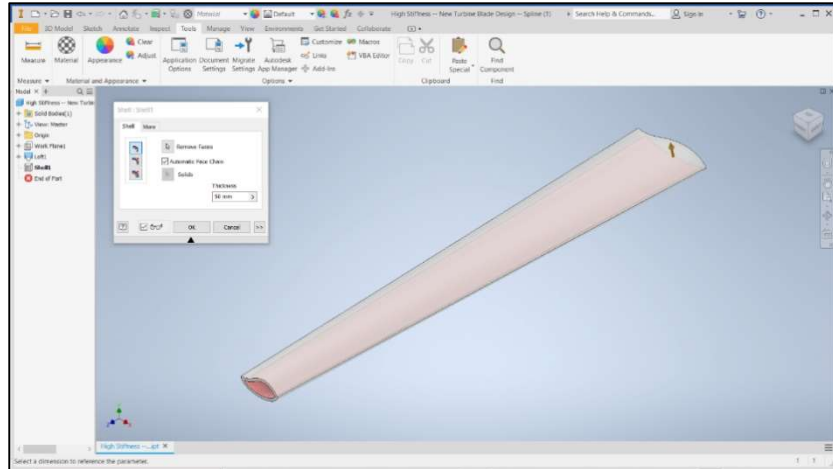

Figure 8. CAD design of a “standardize turbine blade”.
2. **Stage 1 (During DS-5):** As a *team*, create a solid model of a *standardized turbine blade*. The standardized turbine blade (Figure 8) has fixed dimensions (a , b , t , and L). Complete your solid model in Autodesk Inventor 2022.